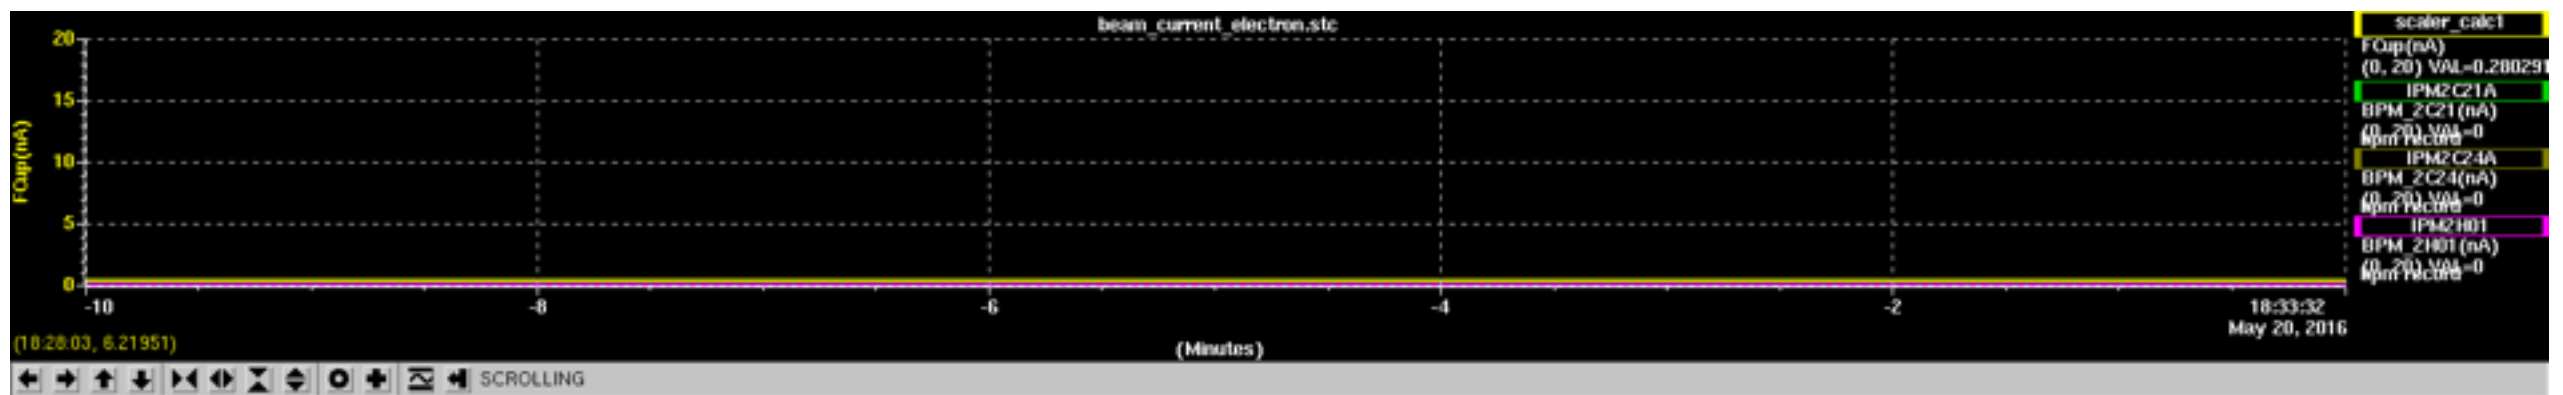

Fig. 2
- Beam current and energy: Get from the strip chart running on CLONPC15, top screen. Beam energy is not available just put down the nominal value. (See Fig. 2 for example).